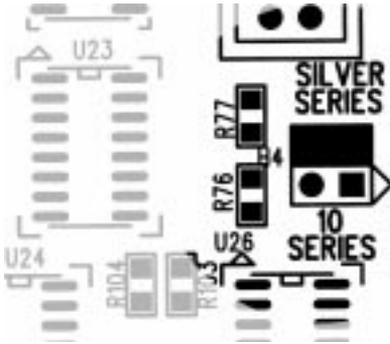

Fig. 3
5. Locate the 4 pin jumper next to the board-to-board connector on the top board. Move the jumper to the "10 Series" position if it already isn't there. See Fig. 3 on page 6 for location of jumper.
5. Locate the 4 pin jumper next to the board-to-board connector on the top board. Move the jumper to the "Silver Series" position if it already isn't there. Refer to Fig 3 on page 6 for location of jumper.